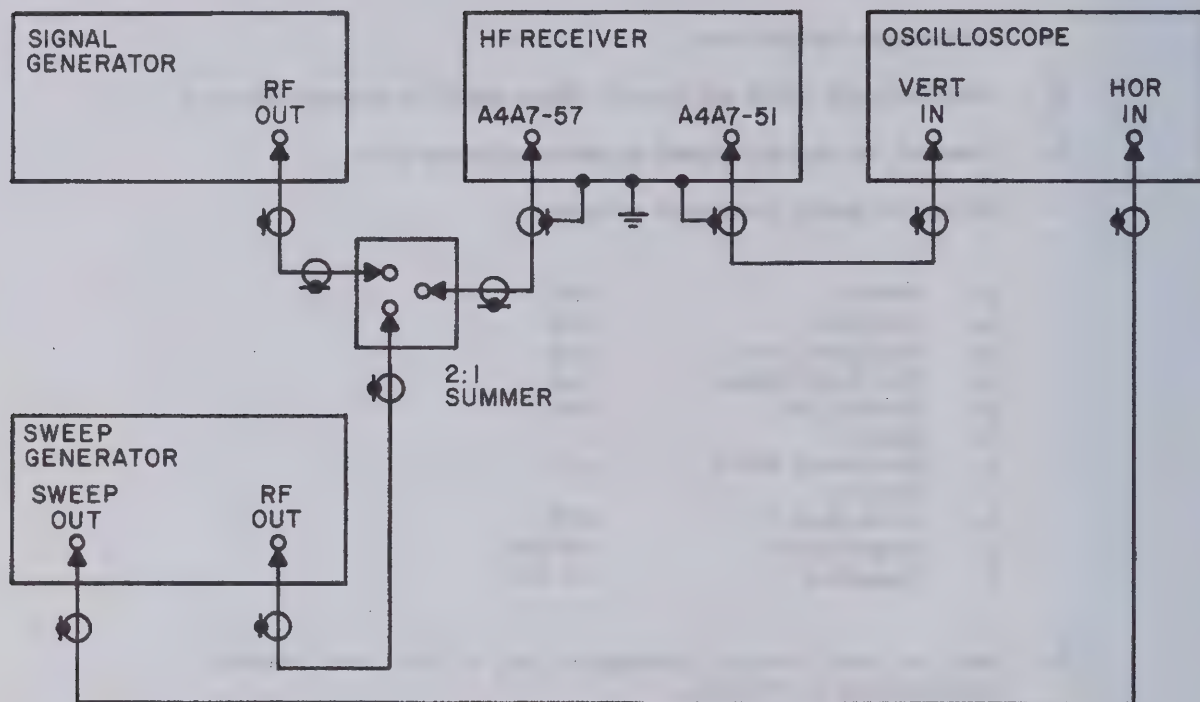

Figure 4-21. 455 kHz Amplifier/AM Detector Response Alignment, Test Setup
3. Connect the test equipment as shown in Figure 4-21.